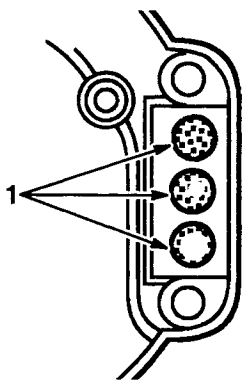

Figure 34
8. Rotate crankshaft slowly until piston covers exhaust ports (Fig. 34).